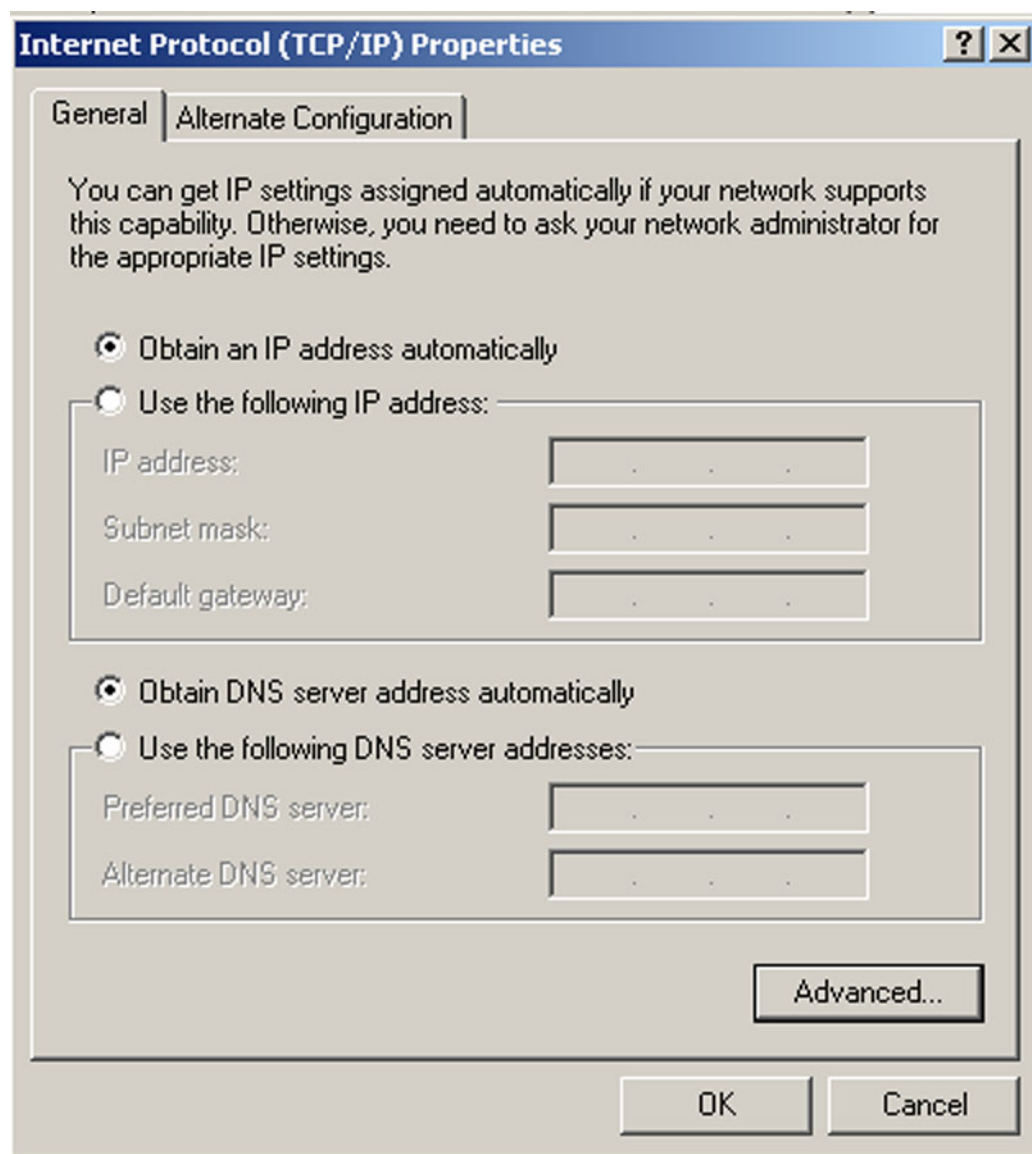

Figure 4-6 Internet Protocol (TCP/IP) Properties
- e.) Select **Properties** shown in Figure 4-6 "Internet Protocol \(TCP/IP\) Properties" on page 4-9.